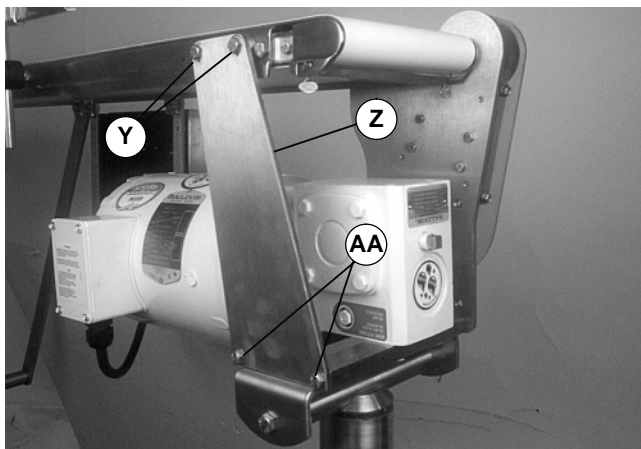

Figure 22
**NOTE:** For conveyor with a Heavy Load Bottom or Top Mount Package, bracket (Z of Figure 22) must be removed.
- Remove two (2) M6 x 30 mm cap screws (Y).
- Remove two (2) M6 x 16 mm cap screws (AA).
- Remove bracket (Z).
6. For a conveyor with a Heavy Load Bottom or Top Mounting package, re-install bracket (Z of Figure 22).
**NOTE:** With a Heavy Load Mount Package, two (2) screws (Y of Figure 22) were removed in step 1.